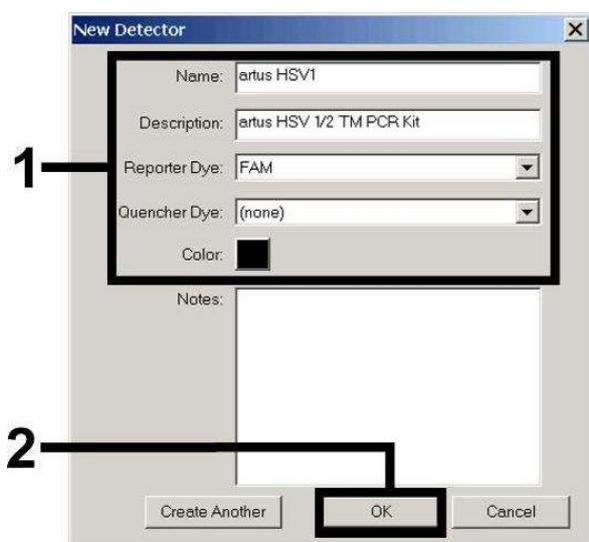
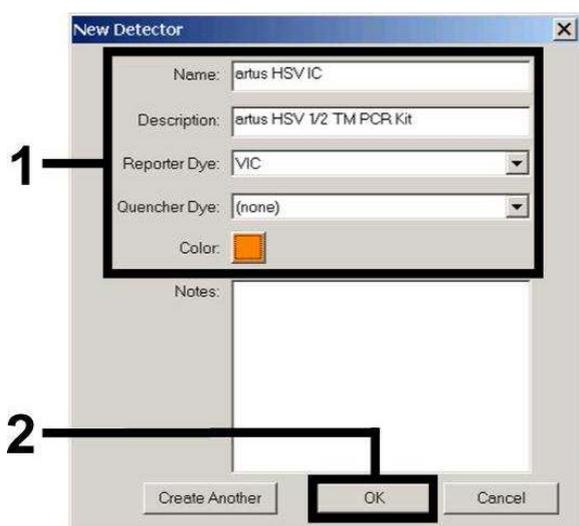

Fig. 4: Creating the HSV-1 specific detector (*Detector Manager*).
Fig. 6: Creating the IC specific detector (*Detector Manager*) for HSV-1/HSV-2.
For the detection of HSV-1 DNA or HSV-2 DNA define the reporter/quencher combination **FAM/none** or **NED/none** in the new window. For the detection of the *Internal Control*, select the combination **VIC/none** (as shown in Fig. 4 – Fig. 6). By confirming the input data (OK), return to the *Detector Manager*.